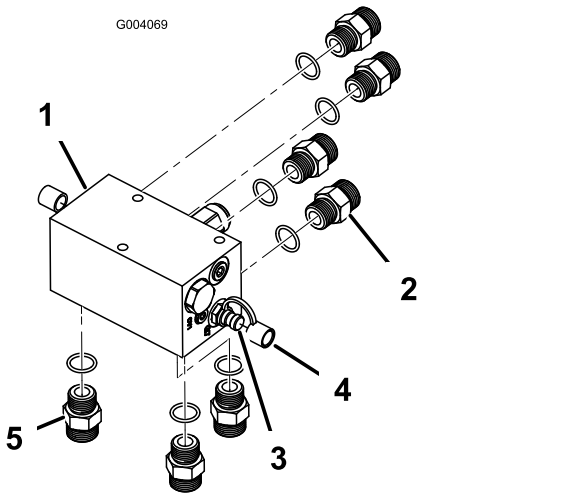

Figure 4
- Install 4 straight hydraulic fittings into the rear of the manifold (Figure 4).
- Install 2 diagnostic fittings into either side of the manifold along with dust caps (Figure 4).
- Install 3 straight hydraulic fittings into the bottom of the manifold (Figure 4).